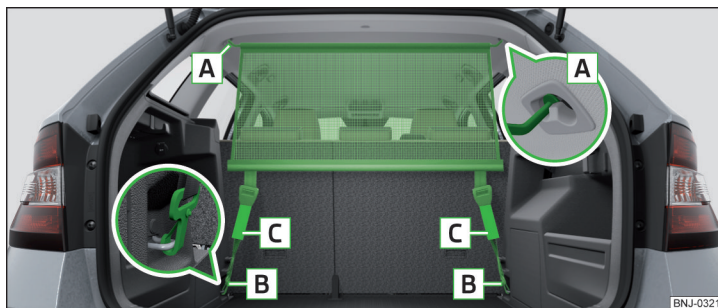

Fig. 110 Net partition behind the rear seats
- First insert the rod into the mount **B** » Fig. 110 on one side and push it forwards. Insert the transverse rod into the mount **C** on the other side of the vehicle in the same way.